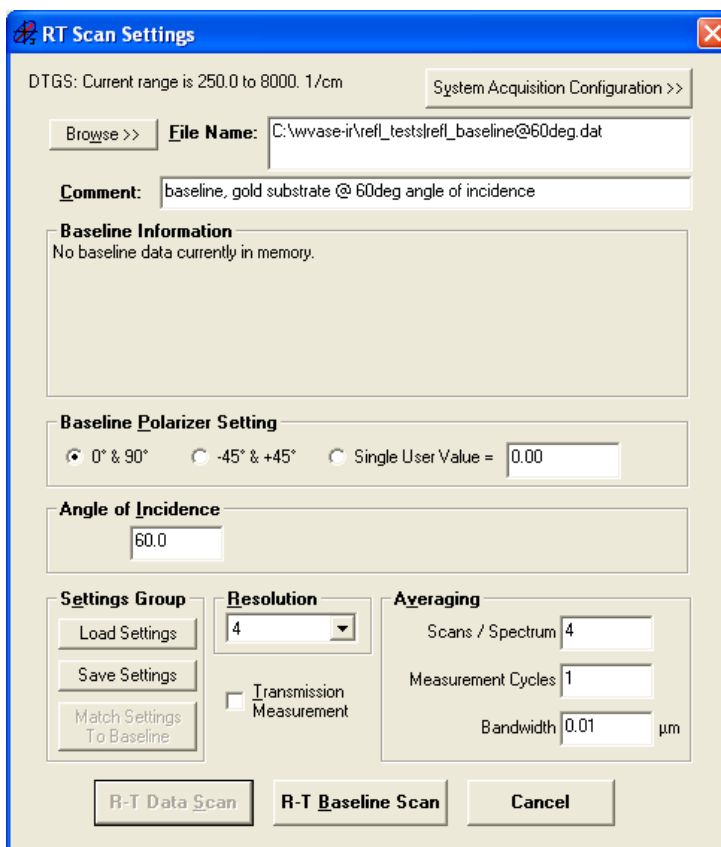

Figure 1. R-T Scan Settings dialog box.
- When ready, select the “R-T Data Scan” button (lower left corner of R-T Scan Setting dialog box, Figure 1).